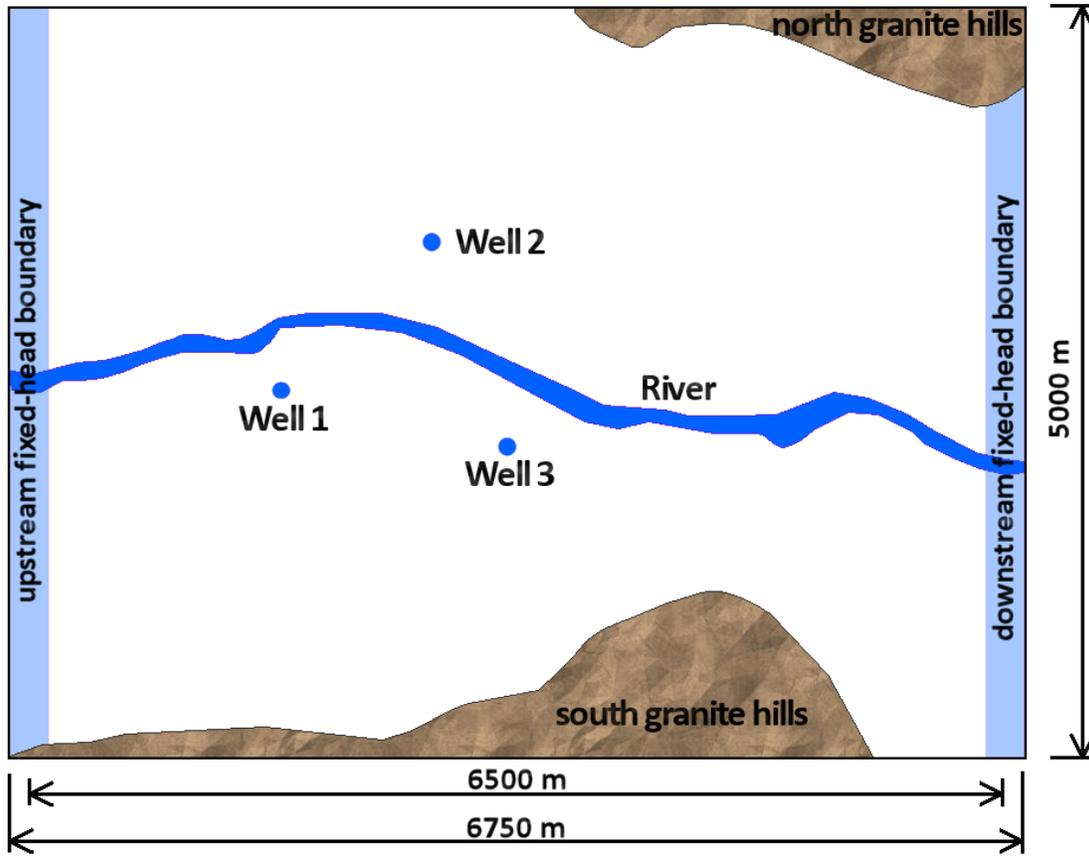

Figure 1. Configuration of the hypothetical model
A river flows through a valley from west to east (Figure 1), which is bounded to the north and south by impermeable granite intrusions. The model domain consists of a permeable system with two aquifers separated by a silty confining layer. The hydraulic heads and the elevations of the aquifer tops and bottoms are provided as 2D Matrix files in the Tutorial3¹ folder. The model parameters are as follows.
1. The reference map as shown in Figure 1 = map.png